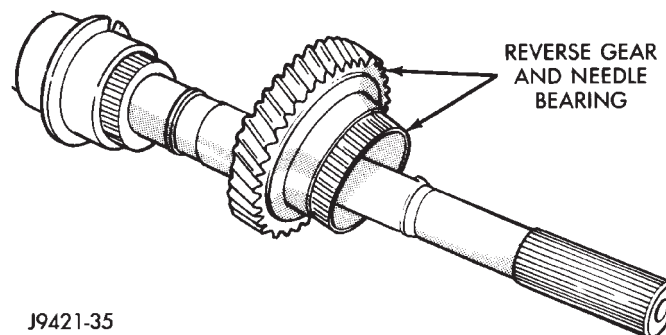

Fig. 50 Reverse Gear And Needle Bearing Removal
(16) Remove reverse gear and needle bearing (Fig. 50).